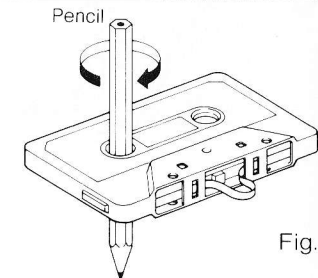

Fig. 22
- 1. If the tape is loose, tighten it with a pencil as shown in Fig. 22.